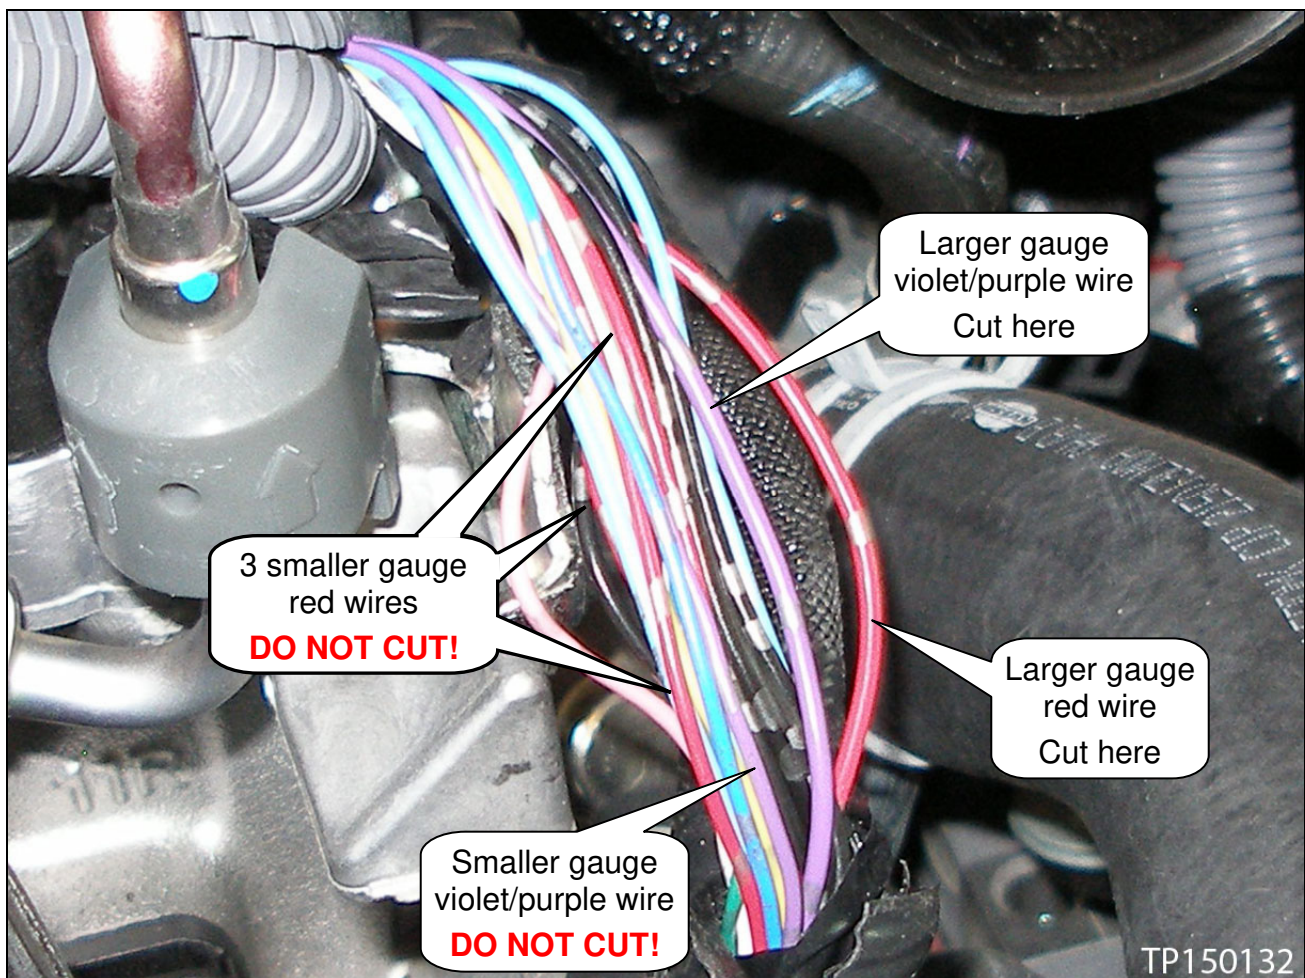

Figure 4
This bulletin has been amended. The ACTION section has been revised, and references to Figures 4 and 5 have been corrected. Please discard previous versions of this bulletin.
9. Locate and cut the thicker 16 Gauge/1.25 mm red wire (see Figure 4).
- Cut this wire further down the harness (see Figure 4). Leave enough length to install a piece of heat shrink tubing.
10. Locate and cut the thicker 16 Gauge/1.25 mm violet/purple wire (see Figure 4).
- Cut this wire about in the middle of the exposed wiring (see Figure 4).